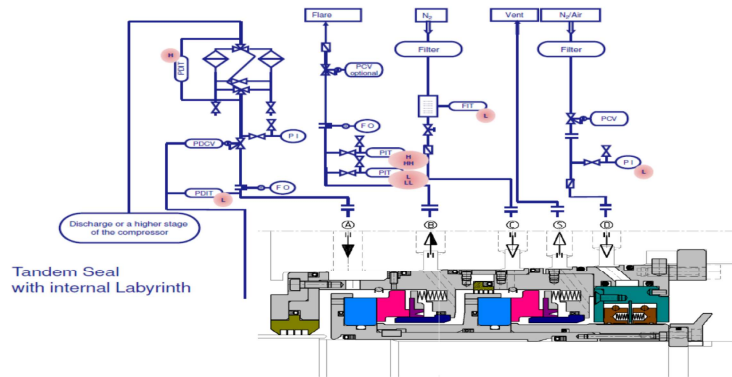

Figure.9. Dry gas seal control system layout
- A very small amount of the sealing gas passes through the primary seal & out of the primary vent which is normally connected to user's flare system. Refer **Figure. 9, 10, 11.**